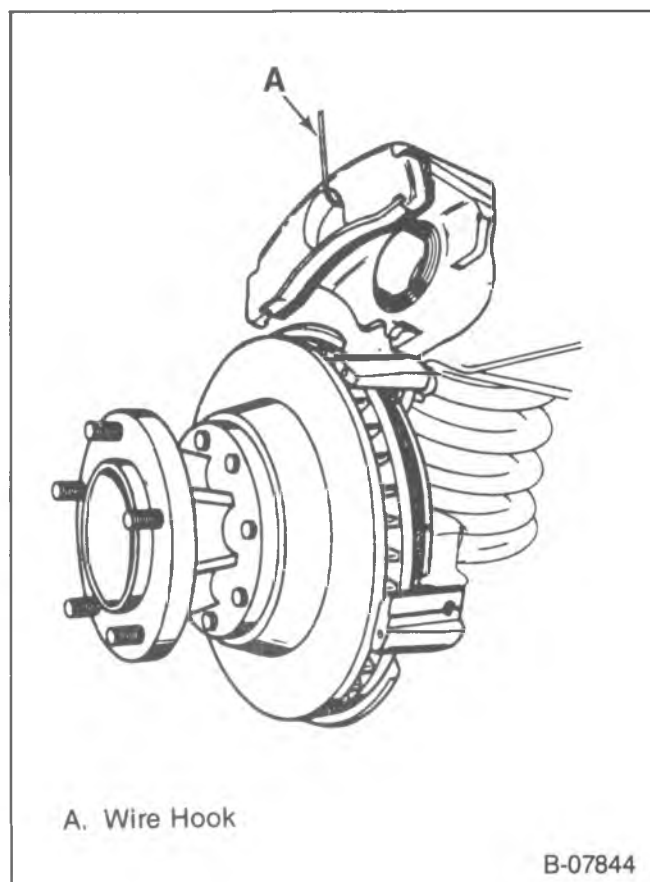

Figure 13—Suspending the Caliper
- Suspend the caliper from the suspension (figure 13).